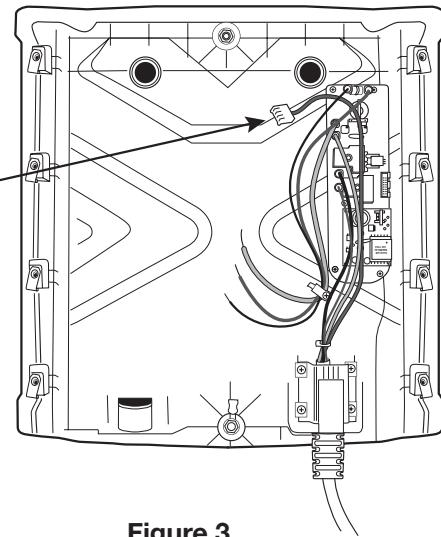

Figure 3
2. Remove 8 Torx head screws then lift off cover (Figure 3). Unplug jumper connectors from the mating connectors on the circuit boards to separate cover from base.